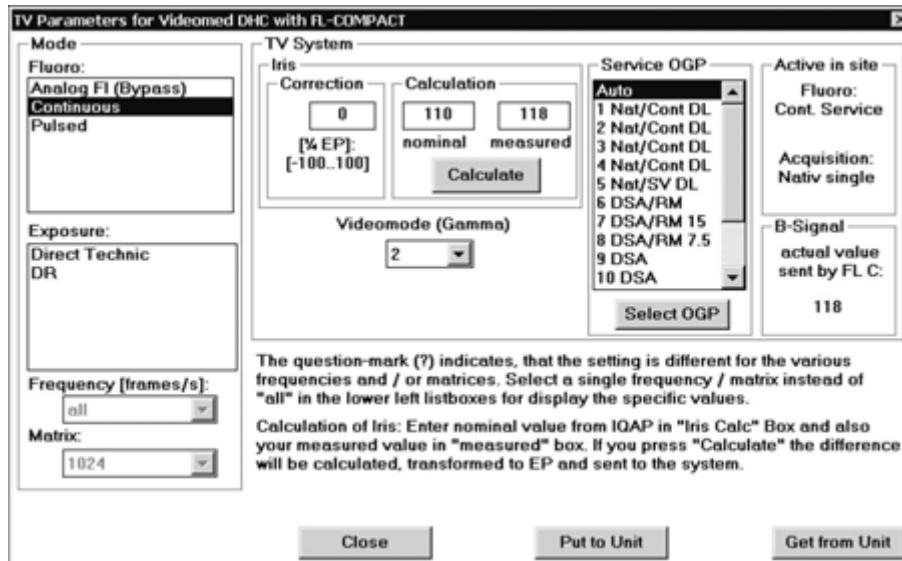

Fig. 17: XCS SSW, Adjustment/TV param
- Repeat the check for all pulse frequencies (under “Frequency [frames/s]:”; (Fig. 17 / p. 40)) as described below.